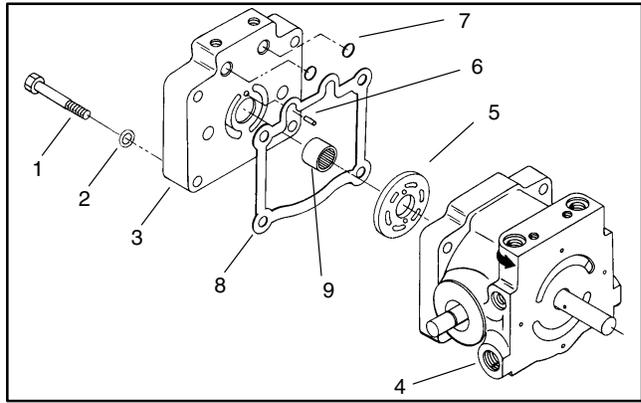

Figure 45
3. Remove four cap screws and washers from the end cap. Loosen cap screws evenly to prevent distortion of parts (Fig. 45).
4. Remove end cap and valve plate together from the variable housing. If valve plate remains on the cylinder block, remove it. Remove locating pin from the end cap (Fig. 45).
1. Inspect end cap (Fig. 45).
2. Inspect valve plate. There should be no signs of scoring on contact surfaces (Fig. 45).